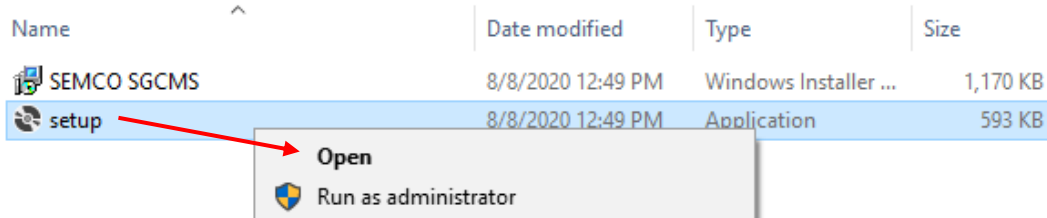

Figure 3-3
Step 2 - To Install the new SGCMS Server program, navigate to the installation folder (CD, USB, etc.), right-click on the **setup** file and choose **Run as Administrator** as shown in Figure 3.3. Acknowledge the prompts, click on **Next** (3 times) and finally **Close**. The SGCMS Server program software is now installed.